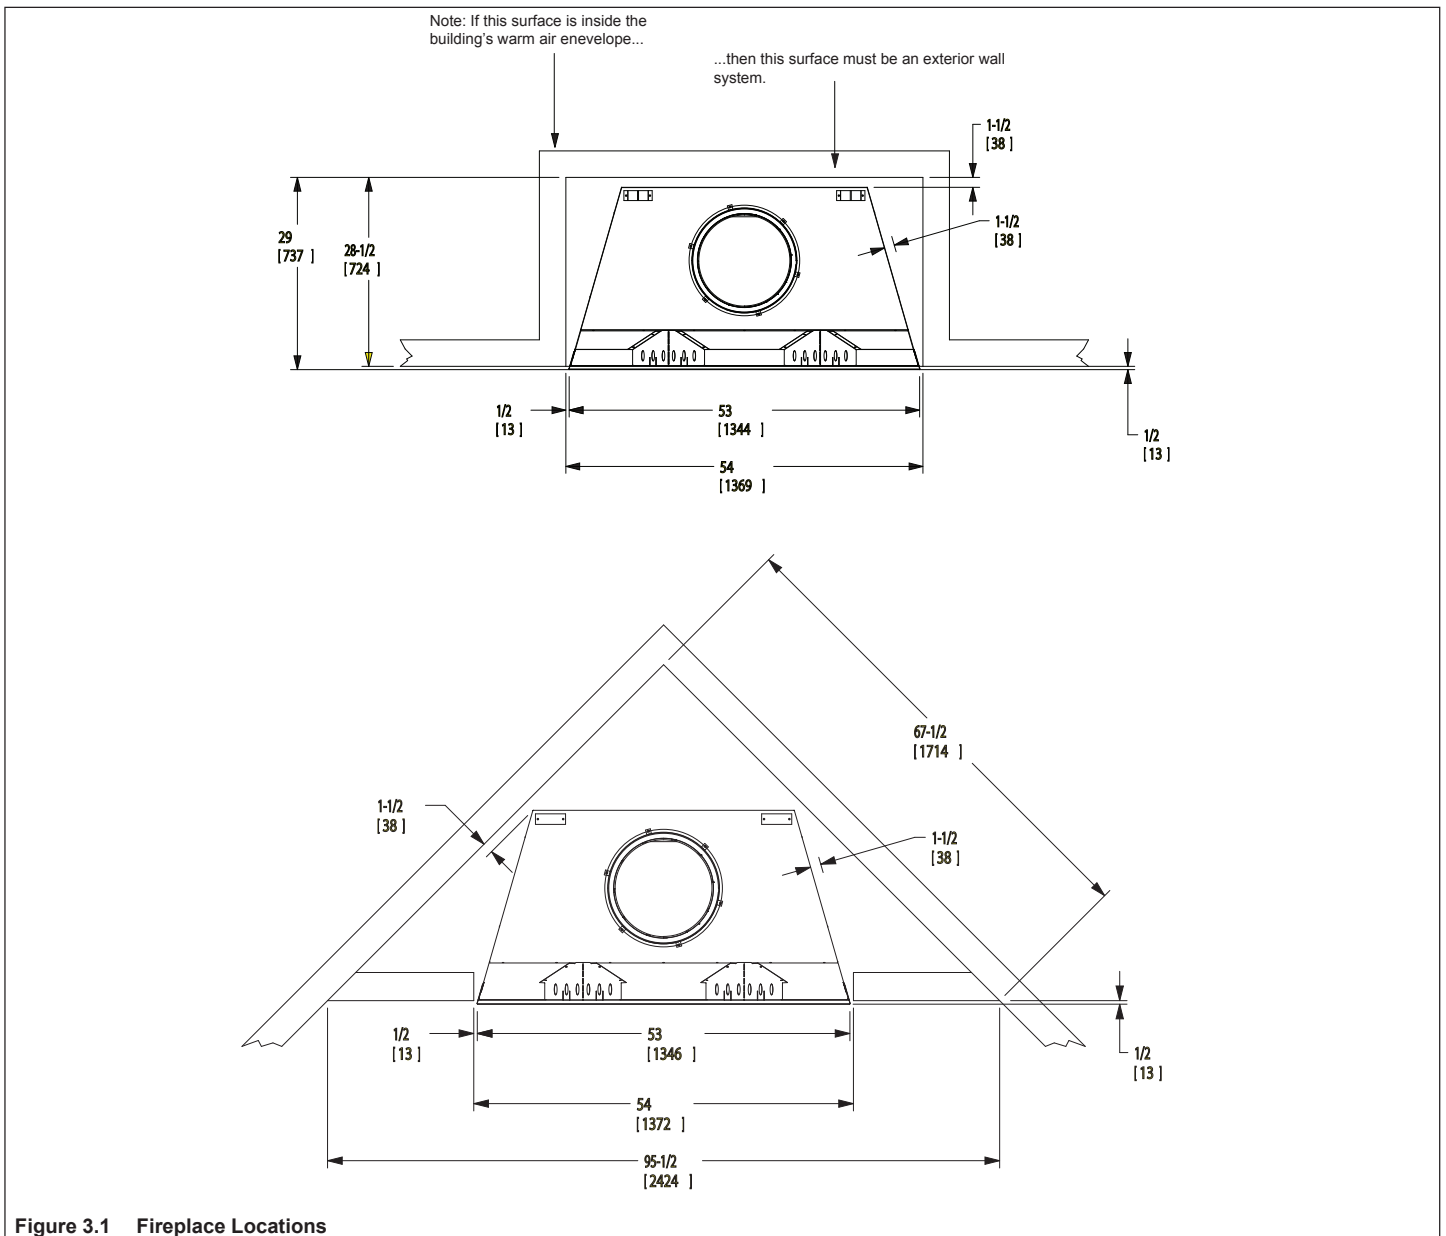

Figure 3.1 Fireplace Locations
• Exterior Walls (see Figure 3.1)